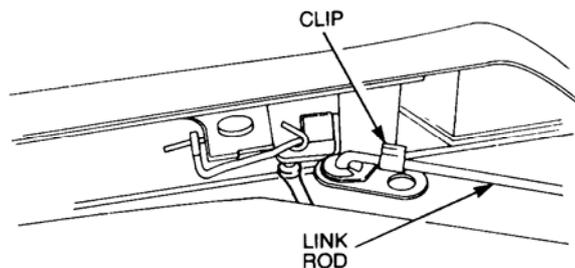

Figure 13 Door Lock Handle Link Rod Removal
- n. Disconnect the clip securing the lock handle rod to the door lock (refer Figure 13).